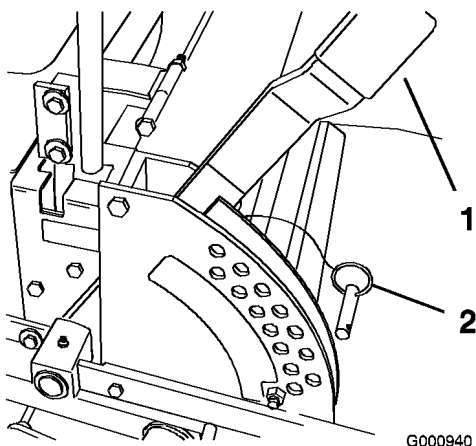

Figure 17
1. Raise the height-of-cut lever to the transport position (also the 5 inch (127 mm) cutting height position) (Figure 17).
2. To adjust, remove the clevis pin from the height-of-cut bracket (Figure 17).
3. Select a hole in the height-of-cut bracket corresponding to the height-of-cut desired and, insert the clevis pin (Figure 17).